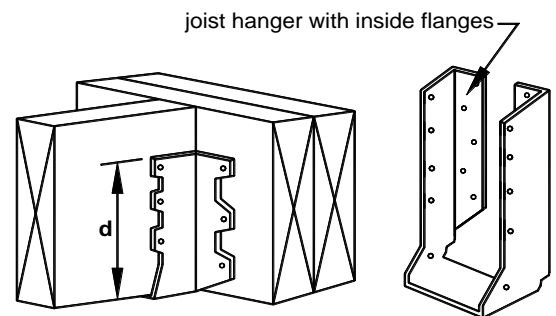

FIGURE 8: JOIST HANGERS
- Joist hanger depth (**d**, as shown in FIGURE 8) shall be greater than or equal to 60 percent of the joist depth.